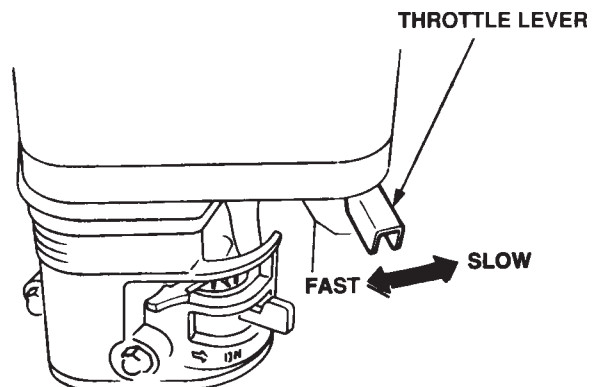

Figure 20. Throttle Lever
6. Place the **throttle lever** (Figure 20) halfway between **fast** and **slow** for starting. All sawing is done at full throttle. The engine governor speed is factory set to ensure optimum blade operating speeds.
1. Place the throttle lever (Figure 20) in the slow position, and listen for the engine speed to decrease.
2. Move the engine throttle lever to the idle (SLOW) position (Figure 20).